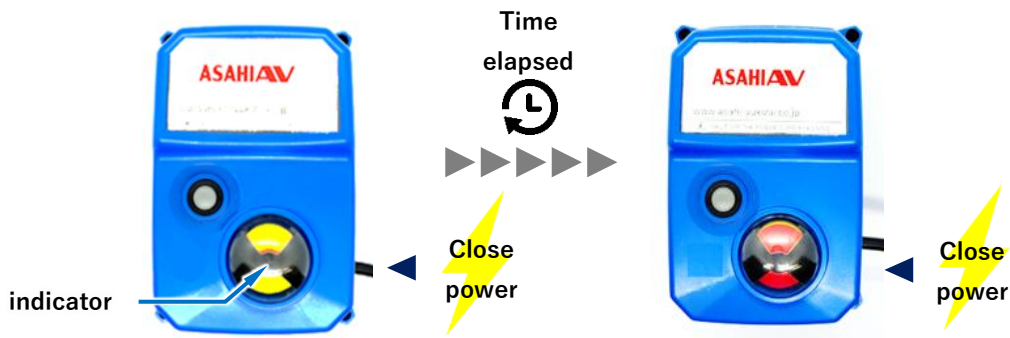

Figure 7.2-1 Right-open control
- ① Confirm that the actuator indicator is "solid yellow."
- ② Supply right-open power (power between blue and red of the pre-cable) from the distribution board to the actuator.
- ③ After the time has elapsed, confirm that the actuator indicator automatically stops with "solid red" (Figure 7.2-1).